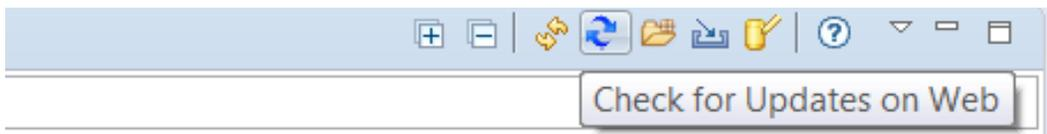

Figure 45. Check for Updates on Web Button
1. In the CMSIS-Pack Manager perspective, click on the **Check for Updates on Web** button (see the "Check for Updates on Web Button" figure (Figure 45)).